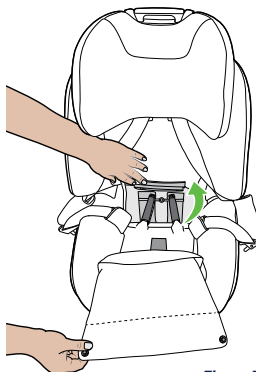

Figure 7
Step 1. Open ISOGO storage compartment door on the backrest portion of the seat to reveal the ISOGO connectors (Figure 7).